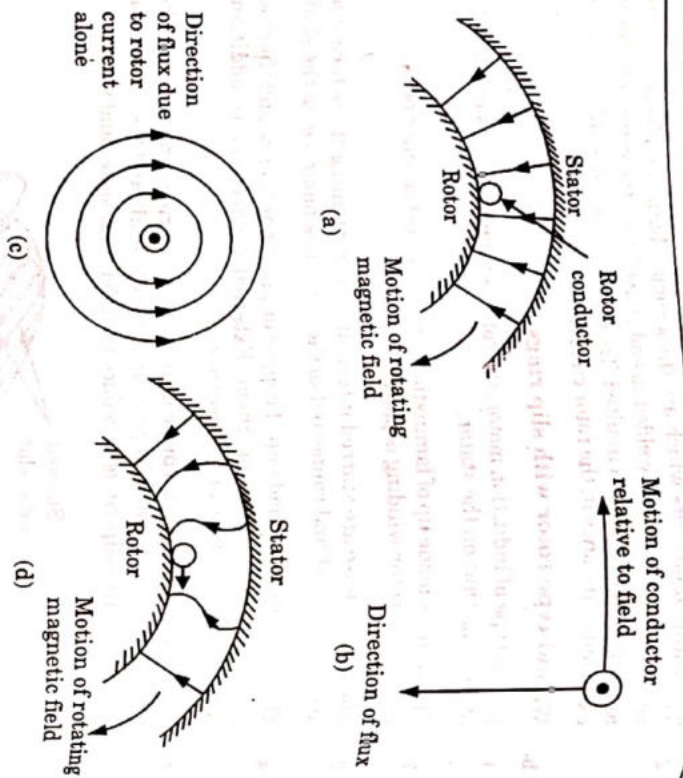

Fig. 4.19.1.
1. Let us consider that the rotor is stationary and one conductor is on the rotor as shown in Fig. 4.19.1.
- By right-hand rule the direction of induced current is downward as shown in Fig. 4.19.1(b).
- Now the current in the rotor conductor produces its own magnetic field as shown in Fig. 4.19.1(c) due to this a force is produced on the rotor conductor.